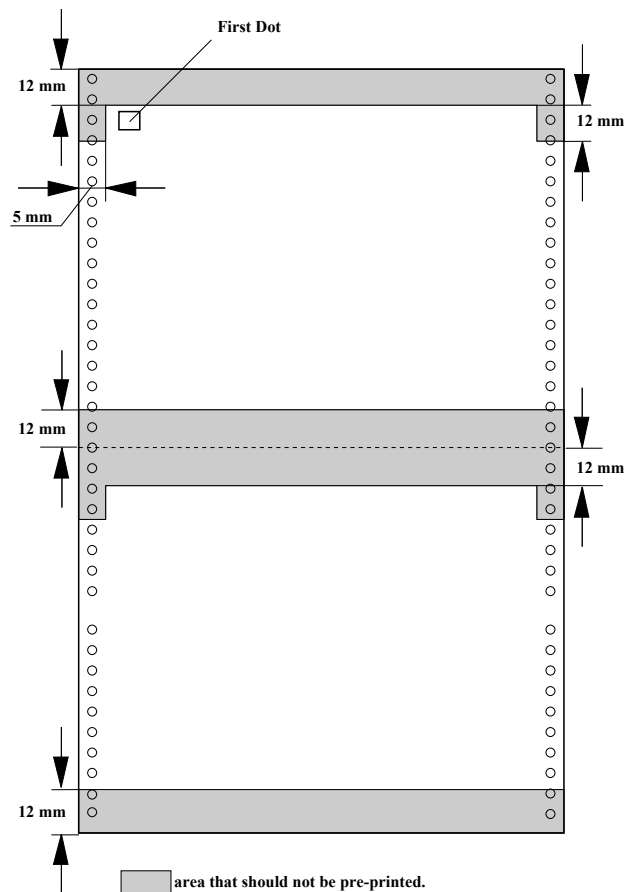

Figure 1-9. Pre-printed paper (continuous Forms)
2. When using pre-printed paper, the reflectivity of the pre-printed color should be less than 60% (e.g., black). The shaded area should not be pre-printed as shown in Figure 1-9. Pre-printed paper \(continuous Forms\) \(p.16\), and that area should not have punch holes.
3. When using pre-printed paper, the reflectivity of the pre-printed color should be less than 60% (e.g., black). The shaded area should not be pre-printed as shown in Figure 1-9 on page 16, and that area should not have punch holes.